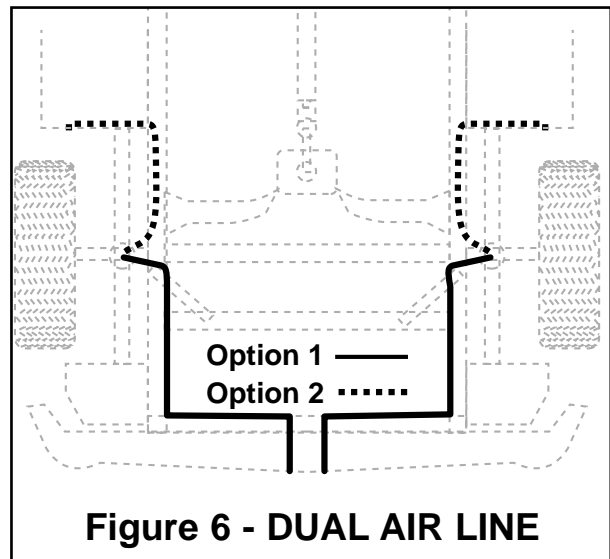

Figure 6 - DUAL AIR LINE
- D. Route air line along frame or under fender panel to desired inflation valve location (Figure 6). Attach air line to chassis with plastic straps or wire.